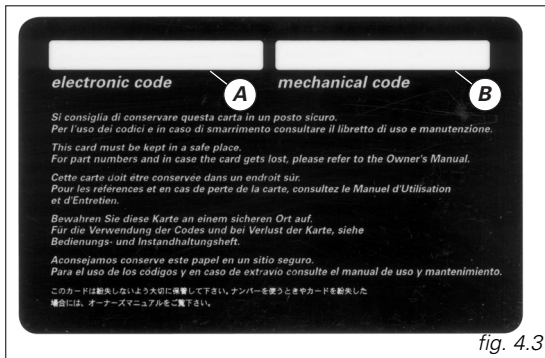

fig. 4.3
A) (fig. 4.3) the electronic code to be used to be used in case of engine block, i.e. bike did not start after **key-ON**.
B) (fig. 4.3) the part no. code for the keys to be reported to the DUCATI Service network when you are ordering any duplicate keys.